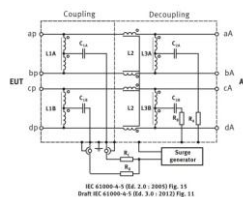

Fig. 15 IEC 61000-4-5
- IEC 61000-4-5 (Ed2.0: 2005) figure 15 and
The IEC 61000-4-5 Ed.2 surge standard shows in figure 15 a coupling network for testing high speed datalines. The international IEC standard committee TC 77 removed at the meeting (January 2011) in Malaysia the figure 15 in the standard IEC 61000-4-5. The committee was of the opinion; the network in figure 15 does not work. Therefore EM Test makes a proposal for a working solution.
Test with coupling direct to the data-lines is based to figure 15 of IEC 61000-4-5 standard. The surge is applied direct to unshielded symmetrical high speed data-lines. For decoupling and protection it is necessary to use separate devices of the CNI 508N2 assembly.